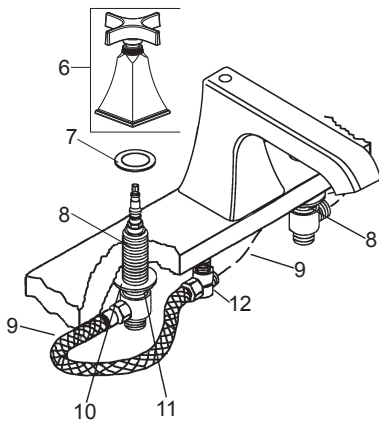
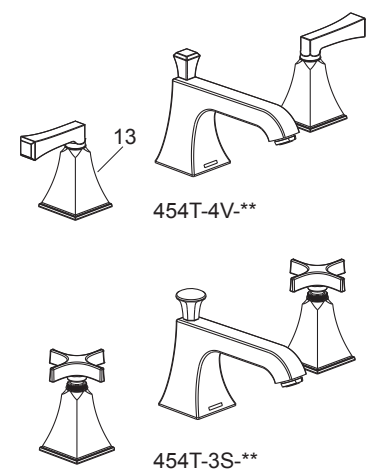

Fig. 1
Fig. 2
Thread rubber washer(7) under handle kit(6). Adjust the direction of each side body as Fig.1 shown and the handle kit and bonnet(13) as Fig.2 shown (**NOTE:** The handle kit with red washer should be installed on the left side).
Rotate each bonnet counter-clockwise and adjust its direction as Fig.2 shown.
Ensure the direction of handles is the same as Fig.2 when the valves are in the off position.
Install the washers(10) and the nuts(11). Wrench tighten the nuts. Connect the side bodies and center tee(12) with hoses(9) as Fig.1 shown.
The Fig.2 shown is the correct position of the handles in the closed position.
将橡胶垫片(7)放在把手组件(6)下面，调整阀体组件方向与Fig.1所示方向一致，把手、把手座(13)方向与Fig.2所示方向一致(注：带红色垫片的把手组件装在左侧)。
逆时针旋转把手座，调整把手座方向与Fig.2所示的方向一致。
确保阀芯处于关闭状态时，把手方向与Fig.2方向一致。